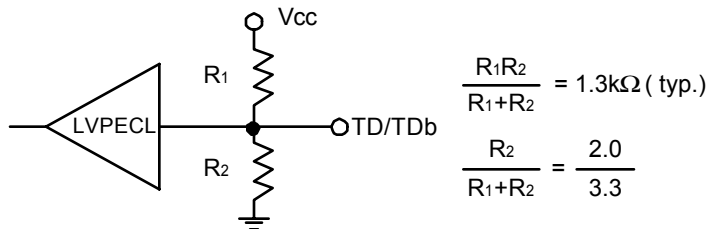

Figure 4. Internal Bias of Input Terminal
6. Input Terminal is biased internally, as shown in the figure4. 7. 20-80%.